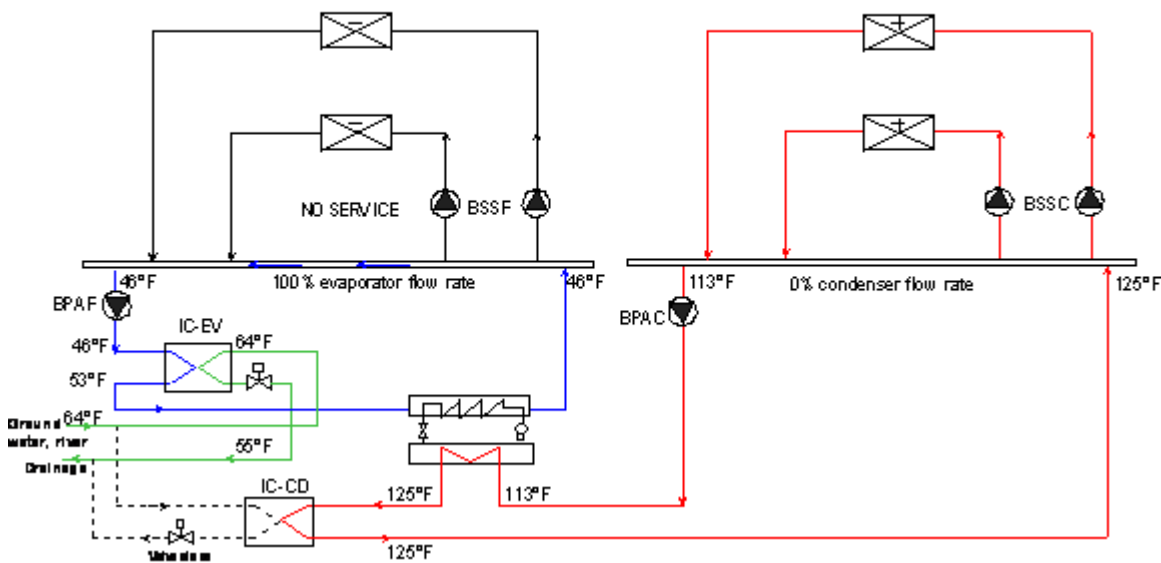

Figure 32. Loop-to-Loop Heat-Pump Heating Only
2. **Heating only (Figure 32)** – In this mode, the chiller acts the same as a boiler and tracks the demand of the hot-water loop. Heat is made up from the well-water loop to the evaporator loop via heat-exchanger IC-EV. The heat-exchanger is controlled to maintain a leaving chilled-water temperature of approximately 53°F (leaving the heat-exchanger, entering the evaporator).